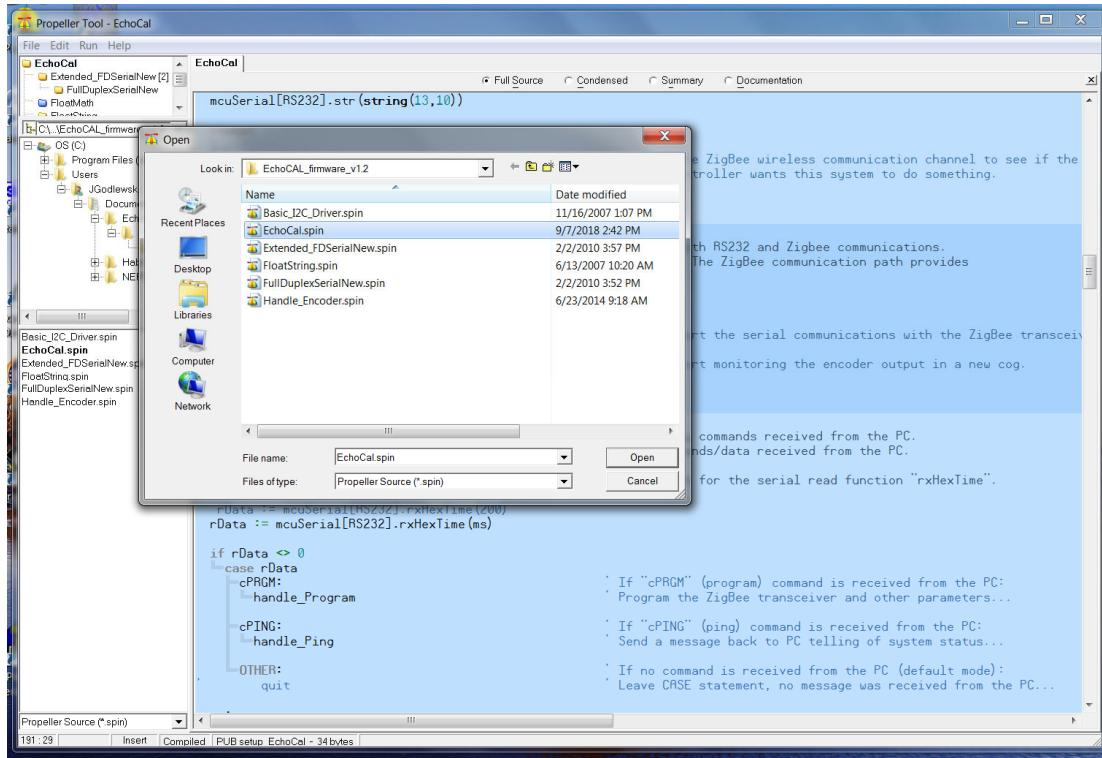

Figure 47: Control box firmware source file selection.
- e. The main Propeller Tool window will open. Select **File/Open** menu item to access the “Open” dialog window. Browse to the latest folder location of the *EchoCal* firmware (.../EchoCAL_firmware_v1.2) and open file “EchoCAL.spin” (Figure 47).